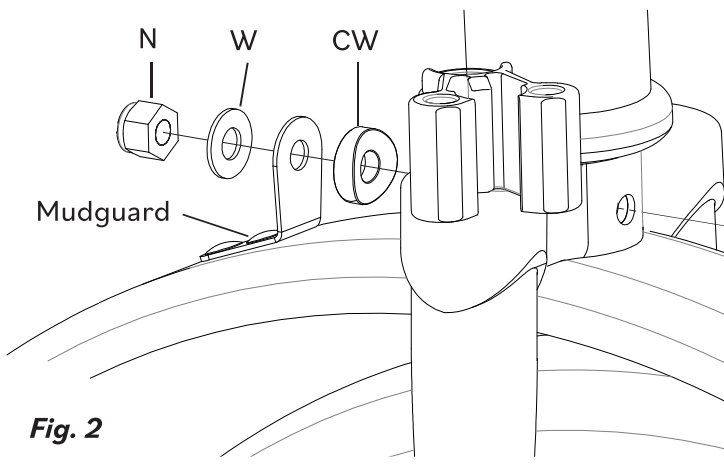

Fig. 2
First remove any existing lamp, bracket or reflector by undoing the nut (N) on the back of the fork tube to release the brake calliper. Fit the new bracket parts in the order shown (fig. 2).